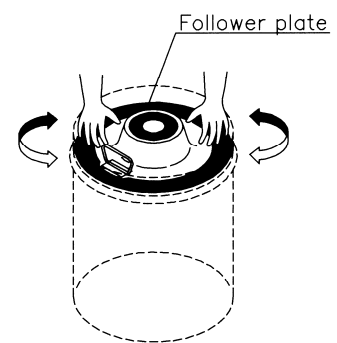

Fig. 3
- 4) Remove the lid of a new pail and set the attached follower plate. Place the follower plate on the grease horizontally and push it down by rubbing it to left and right with a hand until the grease comes out from the packing in the middle of the plate. (Fig. 3)